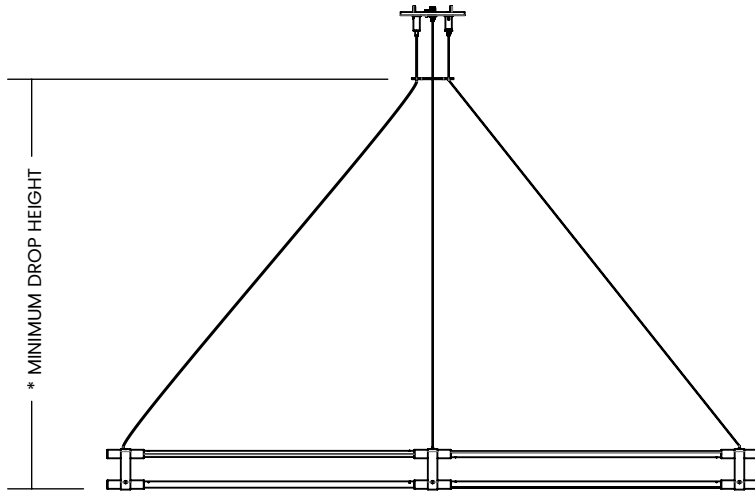

FIGURE 14
1. Drop the fixture's suspension height to meet the minimum requirement shown in Figure 14 to avoid damaging the light tubes.